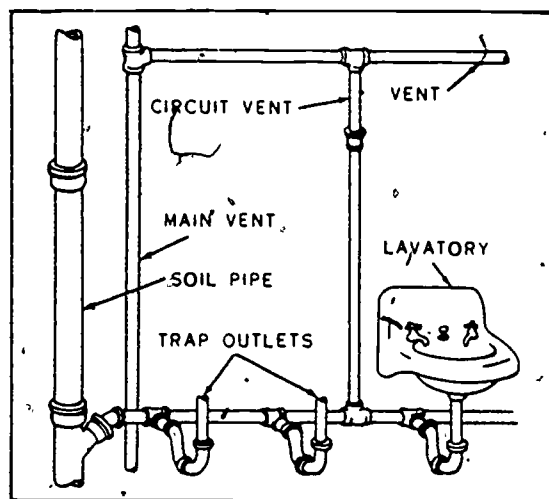

Figure 2-20. Battery of lavatories circuit-vented
**Circuit vent.** A battery of fixtures, such as a group of lavatories in a large public latrine, may be circuit vented. A circuit vent extends from the main vent to connections on the horizontal soil or waste branch pipe between the fixture connections, as shown in figure 2-20. The maximum number of lavatories or other fixtures that are permitted on any one vent circuit is eight.